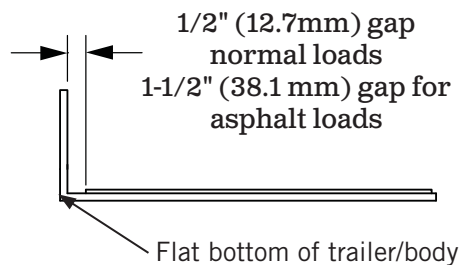

Figure 10
- 3) **See Figures 10.** Center the liner with the trailer/body using the center line marks made in STEP 2 and flush against the bulkhead for normal loads and 1-1/2" from the bulkhead for hauling asphalt.